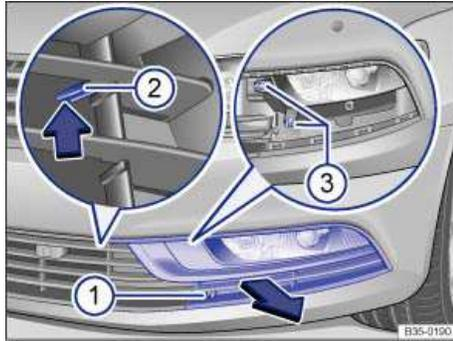
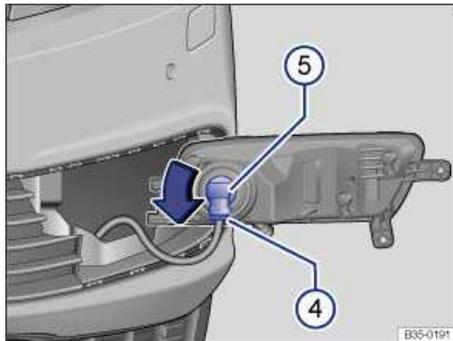

Fig. 202 In the left front bumper: Fog light.
Fig. 203 In the removed light: Replacing the bulb.
2. Remove the screw ⇒ fig. 202 \(1\) using the screwdriver from the vehicle tool kit
4. Pull the cover ⇒ fig. 202 forward out of the bumper in the direction indicated by the arrow.
5. Remove the screws (3) using the screwdriver from the vehicle tool kit.
7. Release the connector ⇒ fig. 203 \(4\) and disconnect it.
8. Turn the bulb (5) counterclockwise until it stops and then remove.
10. Insert the bulb (5) in the housing and turn clockwise until it reaches the original position.
12. Connect the connector (4) on the bulb so that it clicks into place.
14. Install the screws ⇒ fig. 202 \(3\).
15. Insert the cover in the bumper opposite the direction indicated by the arrow ⇒ fig. 202. The tab (2) must lock in place.
16. Install the screw (1).